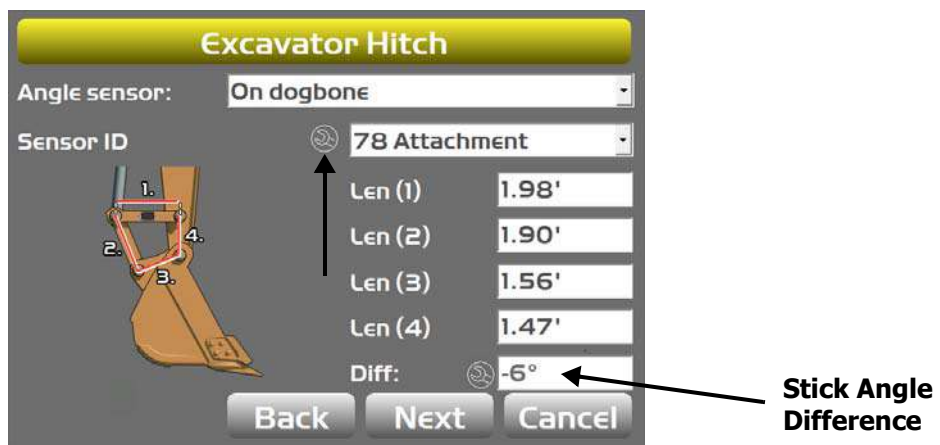

Figure 70: Determine Stick Angle Difference
5. Tap **OK**; the **Excavator DogBone** screen appears (Figure 70).